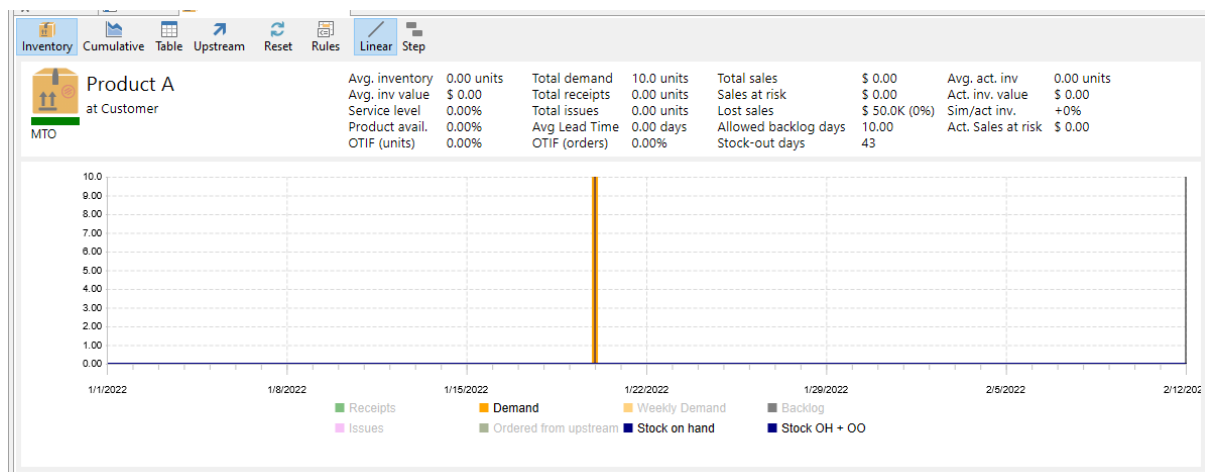

Figure 11: Product Table
Step 4: A graph will appear with the product information. The legend of the graph is at the bottom and greyed out. You can select it to display on the graph (Figure 11).